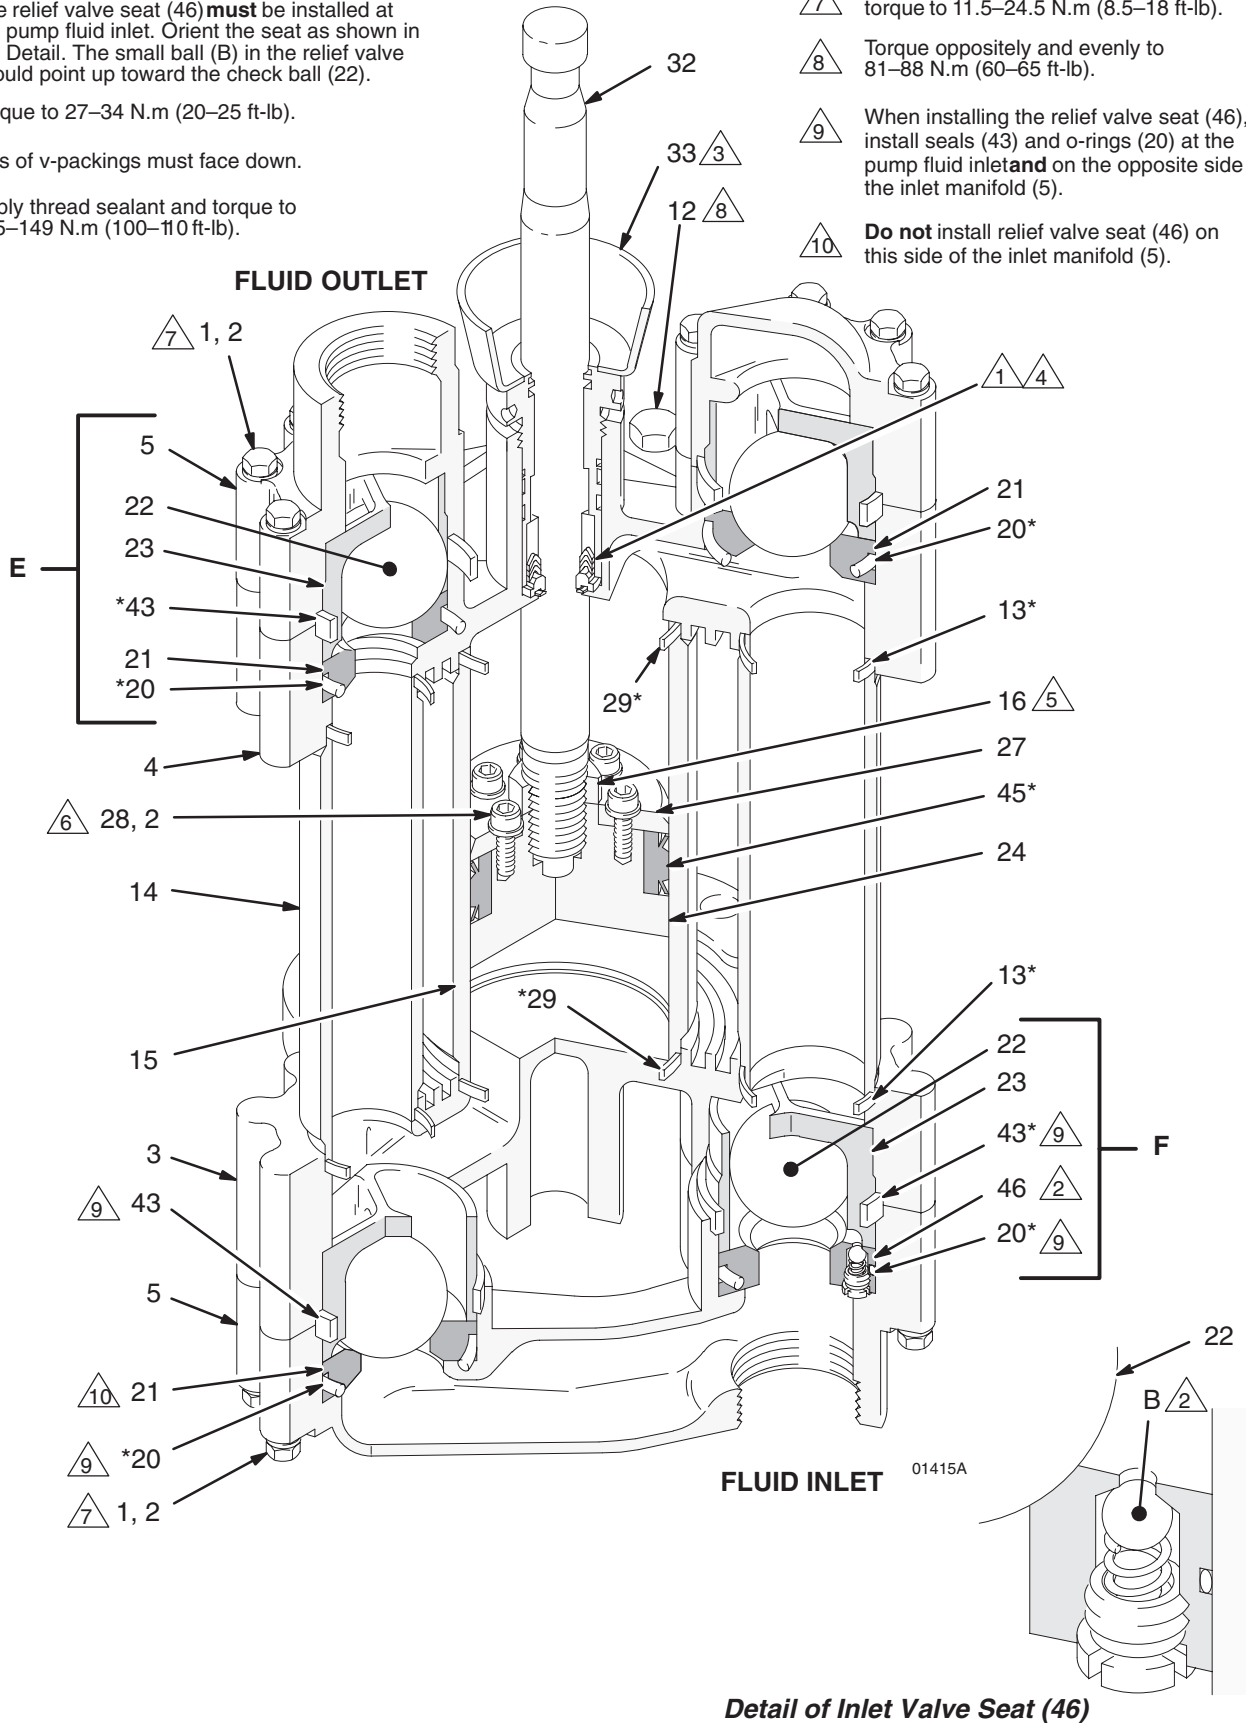

Fig. 17
NOTE: Refer to Fig. 17 for Steps 25–37 unless otherwise indicated.
The orientation of the ball valves in the inlet and outlet valve housings is critical. Install the parts of the ball valve exactly as instructed and refer to Fig. 17. If installed incorrectly, the pump will not operate.
29. Press the seat (46) with the pressure relief valve into the **fluid inlet side** of the inlet manifold (5). This seat is not reversible. Orient as shown in the detail in Fig. 17. Press the other seat (21), with the unworn side facing out, into the other side of the inlet manifold.